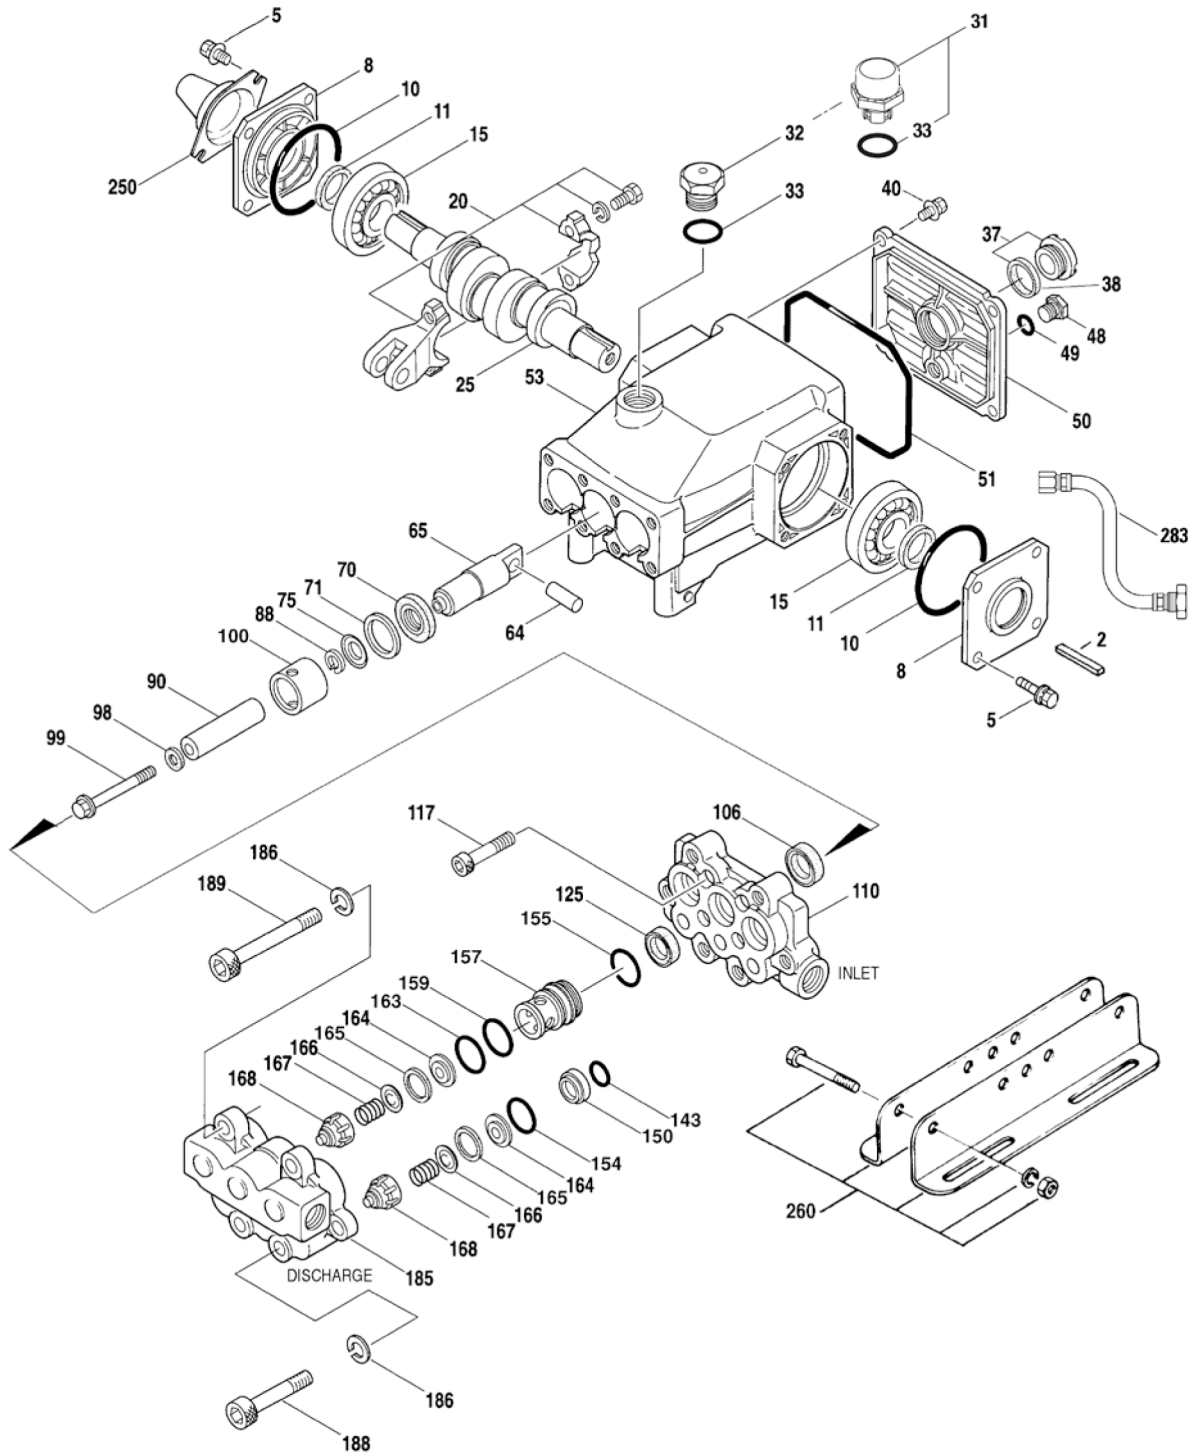

Figure 31: High Pressure Pump Exploded View
- "Figure 31: High Pressure Pump Exploded View" on page 125